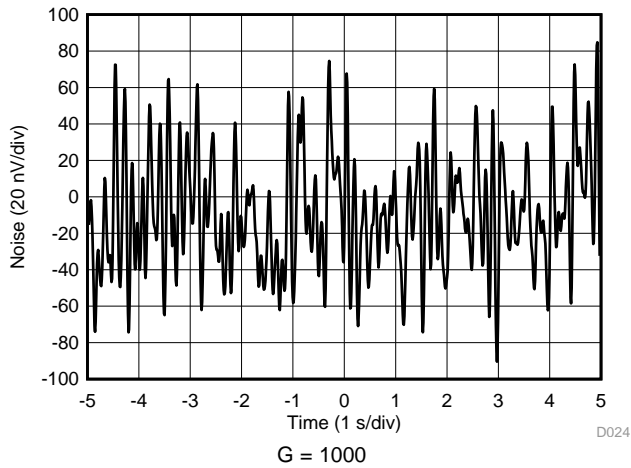

Figure 25. 0.1-Hz to 10-Hz RTI Voltage Noise
0.1-Hz to 10-Hz RTI Voltage Noise $G = 1000$	Figure 25